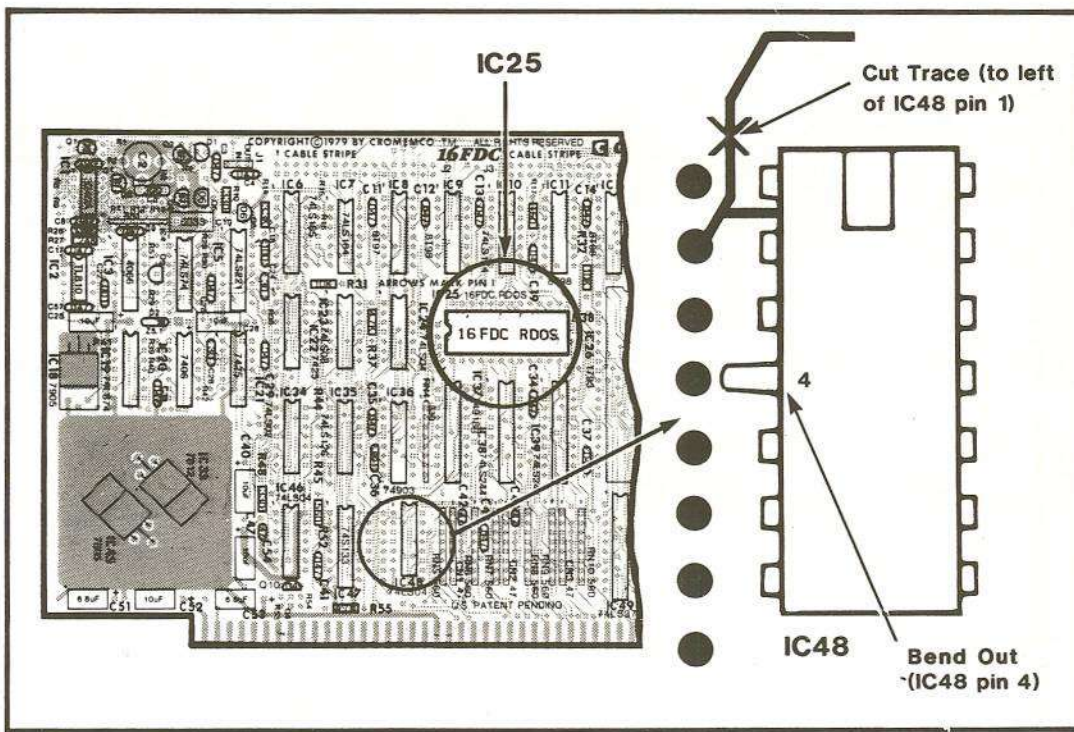

Figure 2: 16FDC BOARD (Component Side)
1. Bend out pin 4 of IC48 (Figure 2).
2. Cut the jumper trace just to the left of IC48 pin 1 (near the pin 1 arrow) (Figure 2).
3. Locate and remove the old RDOS ROM from location IC25 (Figure 2).
4. Install the new RDOS 3.08 ROM at location IC25. Position the ROM as shown in Figure 2.